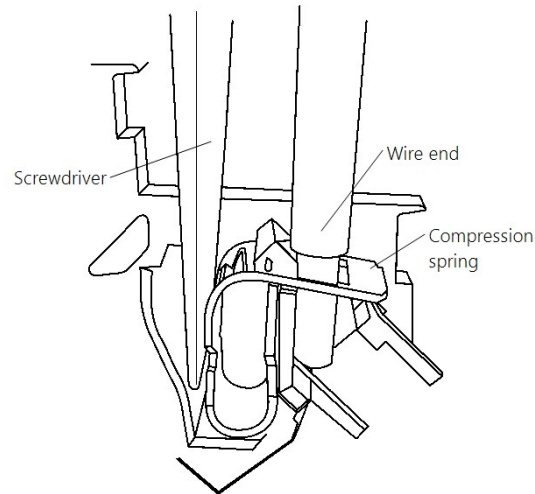

FIGURE B-10. Securing a wire with a spring clamp
8. The terminals on DIN-rail components may be secured by screws or spring clamps. To open the spring clamp, insert a small flathead screwdriver as shown in FIGURE B-10 (p. 38) to open the terminal. The wire end is inserted into the spring, and then the screwdriver is removed to close the terminal.